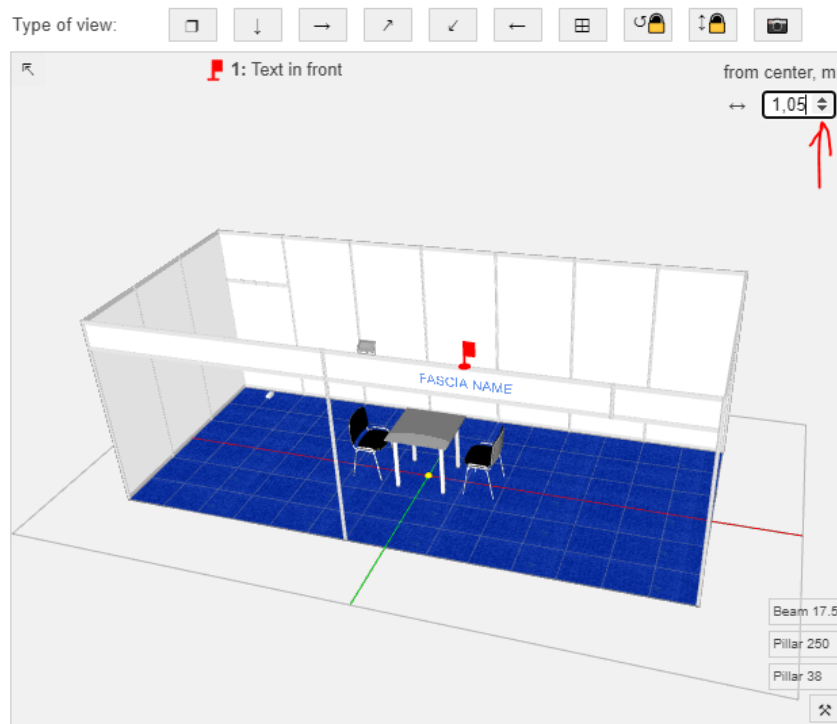

Fig.9
10. When adding upright extrusions (pillars) to support fascia board, a fascia name may require adjusting its position. Select the fascia name and move it with use of the arrows to the correct position. (Fig.9)